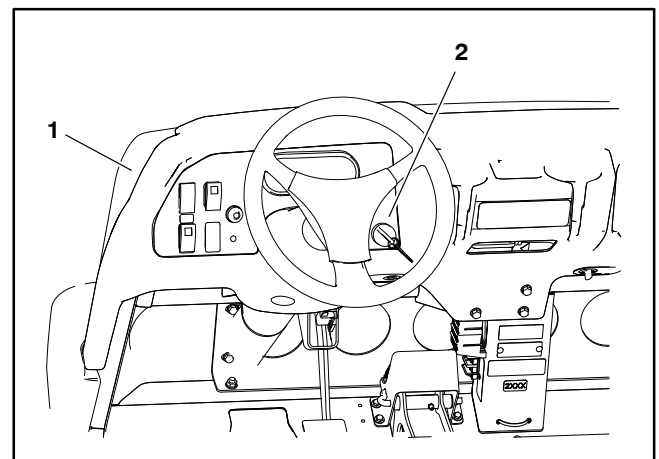

Figure 6
The ignition (key) switch has three (3) positions: OFF, RUN and START. The ignition switch is located on the dash (Fig. 6).